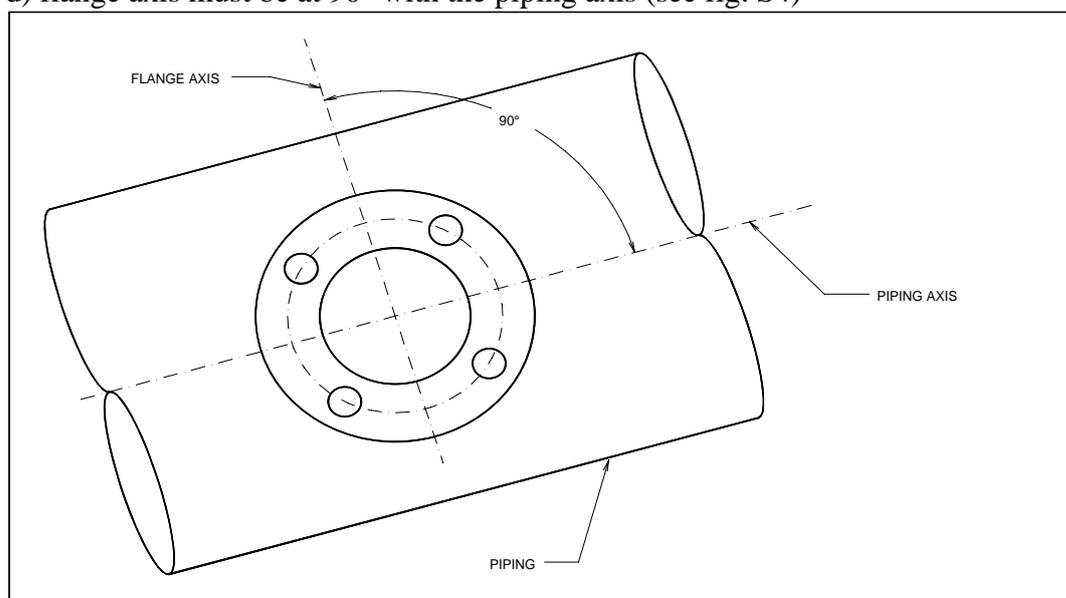

fig. S4
- d) flange axis must be at 90° with the piping axis (see fig. S4)